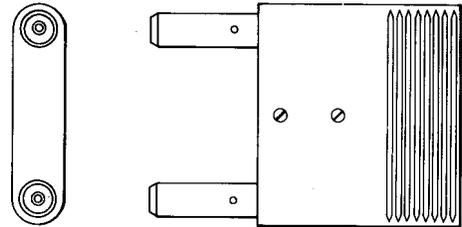

Fig. 13—513A Plug
**2.12 513A:** The 513A (Fig. 13) is a twin-patching type plug that consists of a pair of coaxial plug fingers mounted in a metal shell. The two plug fingers are connected together internally by means of flexible coaxial wire. The 513A plug is not arranged for cord terminations, and mates with the 560A, 568A, and 621A jacks. This plug is used on the J68922DA Line Access Switching Panel.